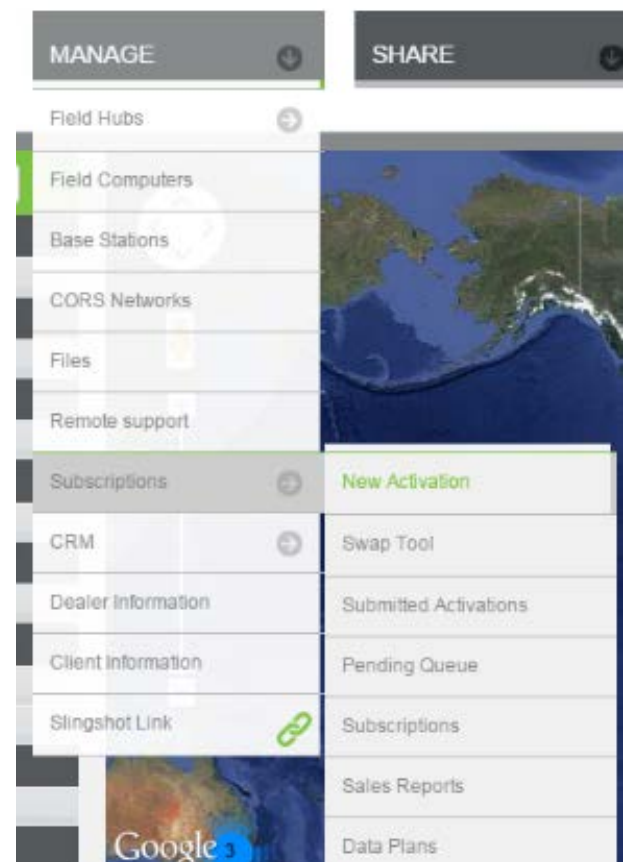

Figure 2 New activation Slingshot field hub.
3. When the account is correct and you are logged in, open Manage > Subscriptions > New Activation (Figure 2).